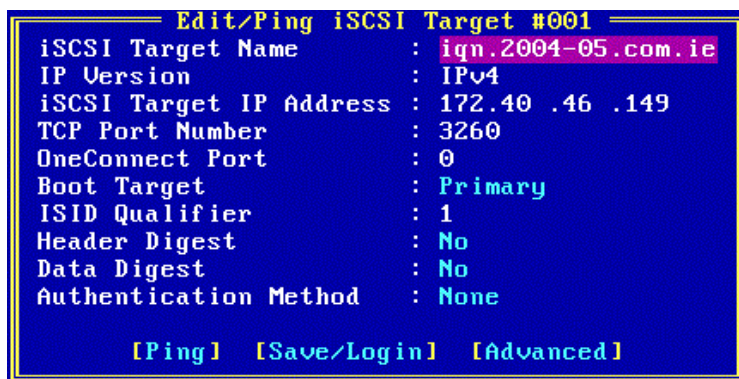

Figure 9-6 Edit/Ping iSCSI Target Dialog Box
3. From the Add/Ping iSCSI Target dialog box (Figure 9-2) or the Edit/Ping iSCSI Target dialog box (Figure 9-6), select **Ping** and press **<Enter>**.